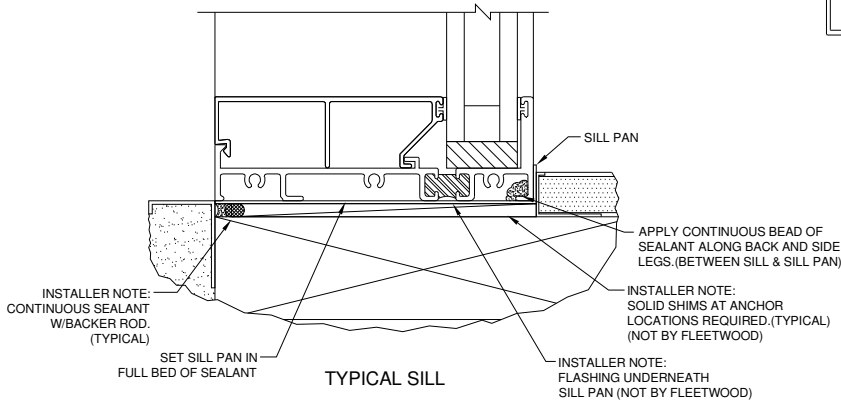

Figure 12:
3. Insert the frame into the opening and set the sill in a full bed of sealant (Figure 12). Cross-measure and adjust as necessary to achieve a plumb square and level condition, as well as an even reveal around the framed opening. Shim with non-porous, non-absorbent, inorganic shims where needed. Seal all fastener heads with compatible sealant. Only drill holes through Sill as required for design load.
6. To complete the installation, apply backer rod and a complete bead of sealant to the entire exterior and interior joint between the frame and the building structure. Tool the sealant to eliminate bubbles, voids and / or breaks and ensure a completely watertight seal (Figure 12).